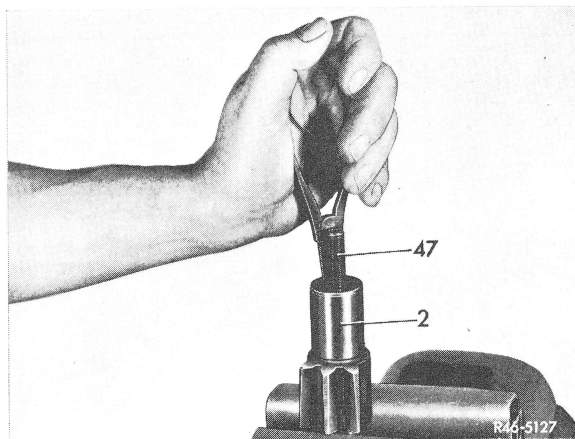

Fig. 8
8 Remove locking ring (51) from adjusting screw (47), then take-off thrust ring (50) (Fig. 8 to 10).